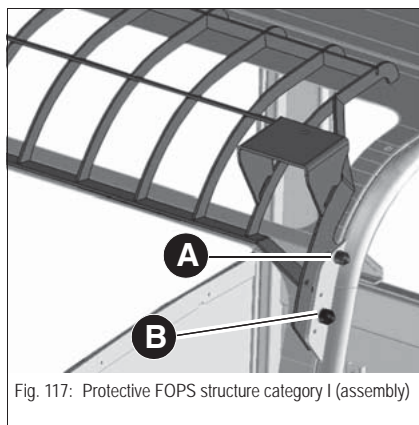

Fig. 117: Protective FOPS structure category I (assembly)
- Pay attention to the restricted work range (see fig. 117 and 118).